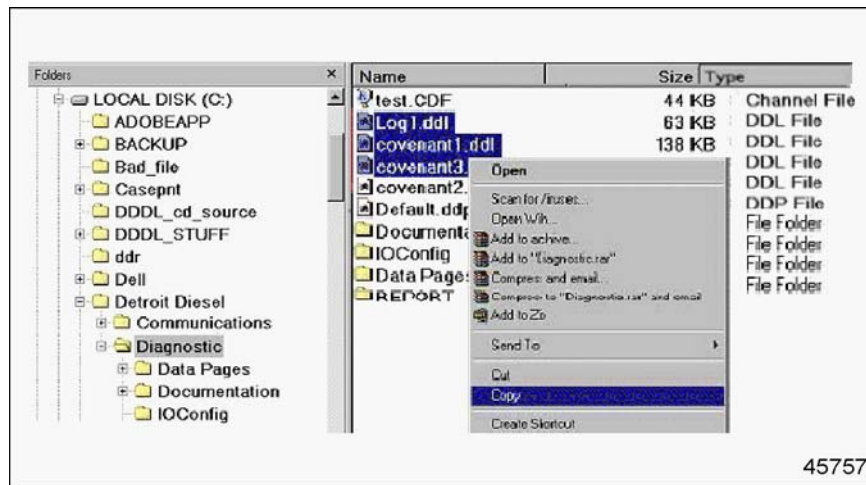

Figure 6-18 Copying the Snapshot Files from the C:\ Drive
6. When all the snapshot files are highlighted, click once on one of the highlighted files with the right mouse button and a new menu will appear. Choose **Copy** from the menu. See Figure 6-18. When the operation is complete, the menu will go away. The operations in the file manager are finished.